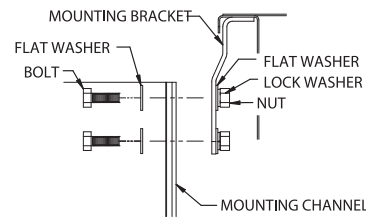

Figure 21 - Mounting Channel Installation
2. Use 3/8" (10mm) flat washers, lock washers and nuts to secure the mounting channel to the bracket, as shown in Figure 21.